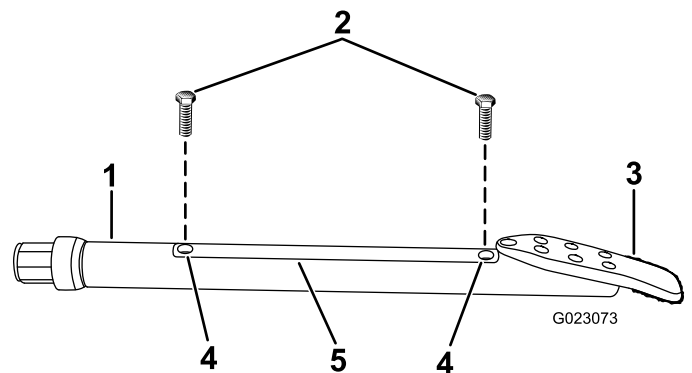

Figure 75
2. Loosen the screws securing the housing cover to the housing and remove the cover (Figure 75).
4. Install the housing cover and secure it with the screws (Figure 75).